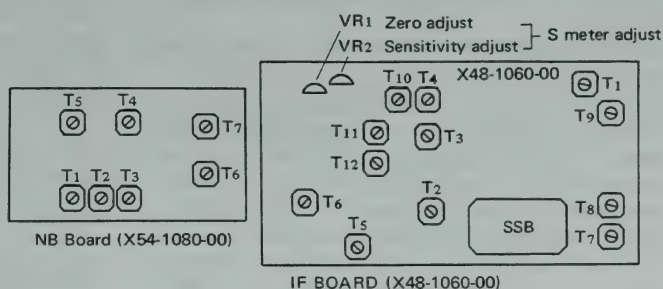

Figure 19. IF Transformer Adjustment Diagram
**PROCEDURE:** Insert a 40 db signal into the transceiver and receive it on USB at 14.175 MHz. Tune IF transformers T2, T5, T6, and T9 on the IF board (X48-1060-00) for a maximum S-meter reading. Then adjust IF transformers T1, T2, and T3 on the NB board (X54-1080-10) for a maximum S-meter reading. Figure 19 shows the coil locations.